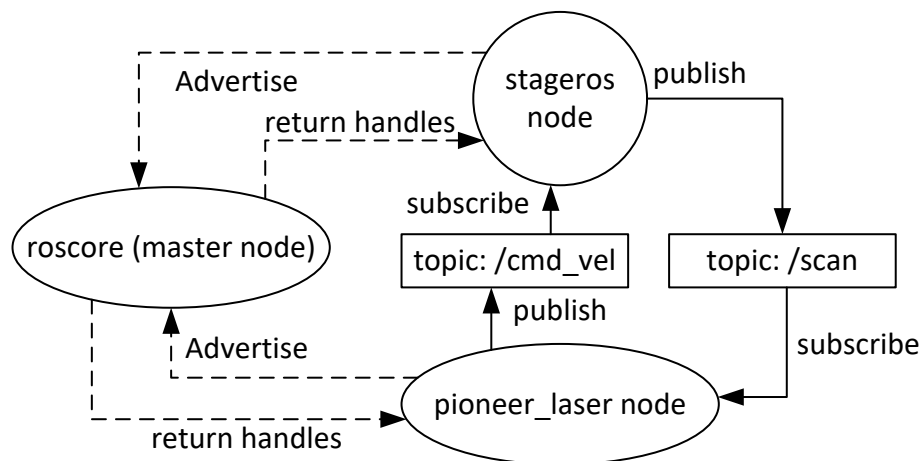

Figure 11: Dependencies between nodes
- Look at the comments and try to understand the code. Figure 11: Dependences between nodes describes the dependencies between the nodes.